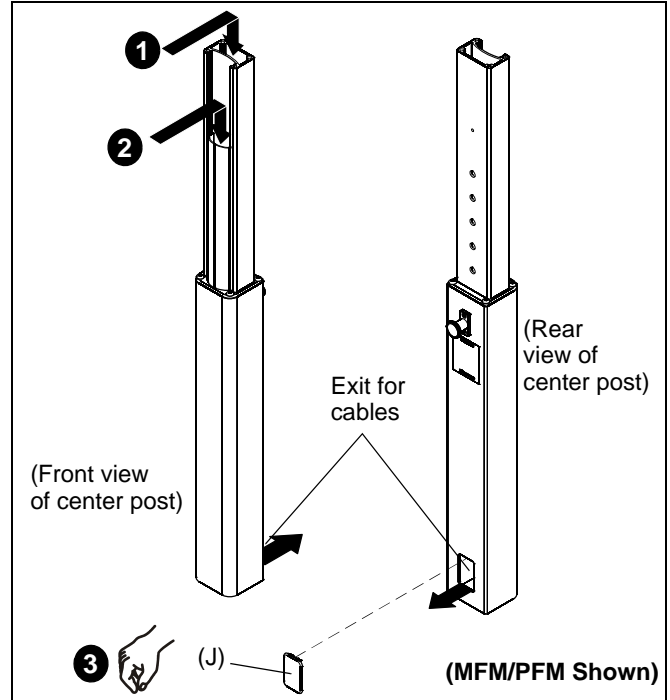

Figure 10
1. Signal cables and display power cord can be run through the top and down through the post to exit out the back. (See Figure 10)
2. Any accessory power cords can be run through the front and down through the post to exit out the back. (See Figure 10)
3. Install the snap-on covers to any opening that is not being used. (See Figure 10)